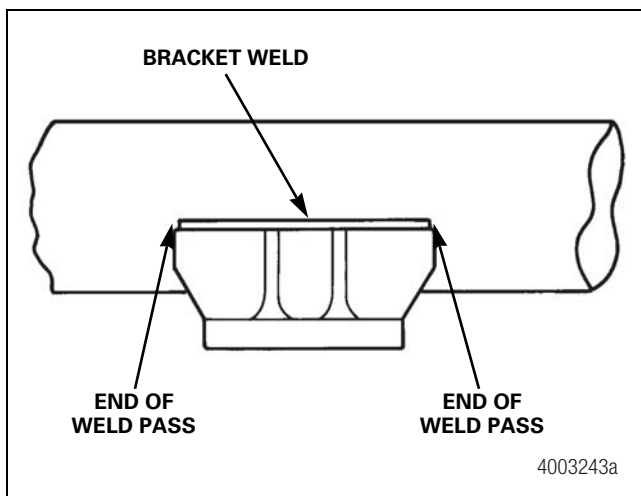

Figure 7.16
- Axles are more likely to crack at the end of the bracket attachment welds. It is critical to avoid welding imperfections such as craters, undercuts and poor fusion at these locations. Some methods of avoiding these imperfections include using correct welding parameters, starting and stopping the arc a short distance away from the ends of the weld pass and maintaining correct arc position and length. Figure 7.16.